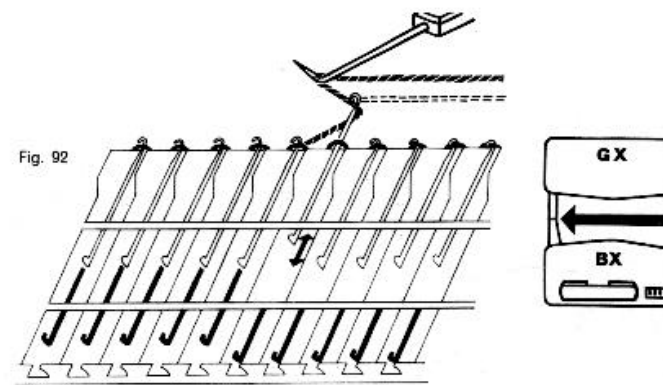

Fig. 92
** On the left lower 5 pushers into Rest Position, Fig. 90, knit 1 row, then wind yarn around the 5th needle on the left, Fig. 91. Now on the right, lower 5 pushers into Rest Position, knit 1 row, wind yarn around 5th needle on the right, Fig. 92 ** — Repeat three times from ** to **.